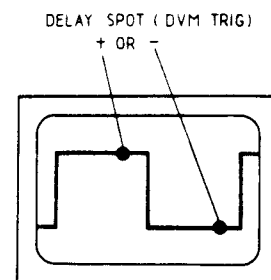

Figure 5-19
1. Connect equipment as shown in Figure 5-18 with pulse gen. to ext. trigger. Set scope and pulse generator to produce a display as shown in figure 5-19.
6. Trigger DVM about 20 ms after LEE 80 % (with scope delay — see figure 5-19).
10. Change DVM trigger by scope delay (figure 5-19) and measure bottom level.